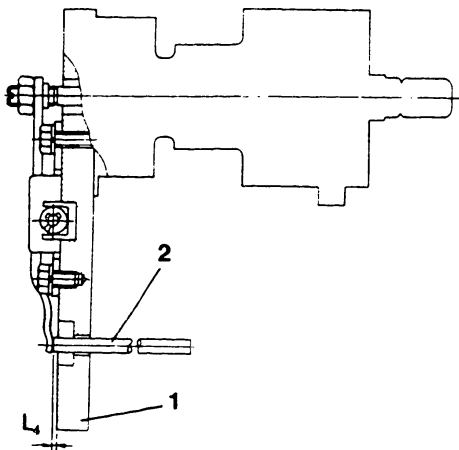

Fig. 176 Checking pushrod (2) protrusion
- 2) With the spacer installed on the governor cover, check that the protrusion of pushrod (2) from the spacer (dimension  $L_4$ ) is as specified. (Fig. 176)